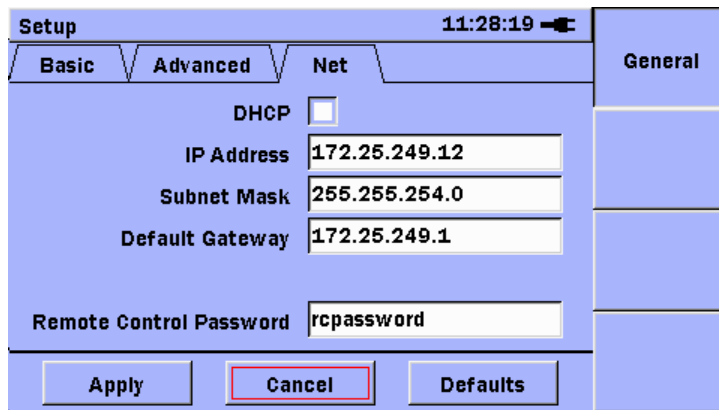

Figure B.1-5 Net Tab, DHCP Off
1. Highlight the DHCP check box. If the box is checked, press the **Set** key so that the box is cleared, as shown in Figure B.1-5
If the IP address information (shown in Figure B.1-5) is changed while the USB-Ethernet adapter is plugged in to the MU909060 unit, then it is necessary to remove the USB-Ethernet adapter from the MU909060 and re-insert it, before the new IP address information will take affect.